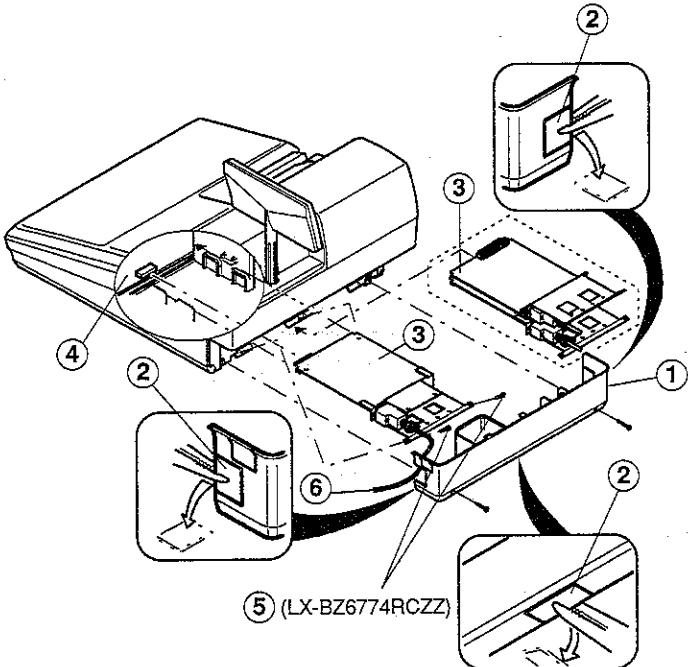

Fig. 4
3) Remove two rear cover holding screws and remove the rear cover ① (Fig.4).
4) Break open the knockout ② of the rear cover ① (Fig.4). After breaking open the knockout ②, file off the new hole.
5) Insert the interface PWB ③ onto the connector of the main PWB ④, and fasten the bracket to the main chassis using screws ⑤ (BZ6774RCZZ: Self tap screw) (Fig.4).
6) Route the external cable ⑥ through the hole and fasten the rear cover (Fig.4)
In the ER-A550, option cables can be pulled out from three points in the rear cover of the body. Refer to figs. 4, 7, 8 and 9.